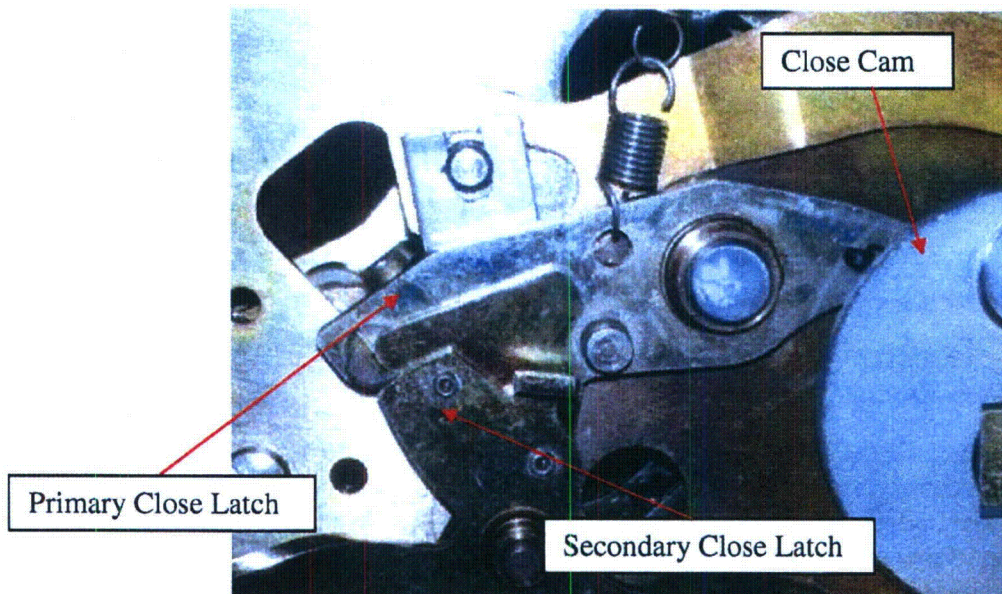

Figure 2 – Interlocking Primary and Secondary Close Latches in operating mechanism
1. This letter provides notification of a failure to comply with specifications associated with a primary close latch, part number 716611K02, used in K-Line 225 to 2000 amp continuous current low voltage electrically operated Model 7 circuit breakers. It does not affect previous models of these same breakers that have not been upgraded to include the interlocking primary and secondary close latches (see Figure 2). It also does not affect manually operated K-Line breakers or K3000/4000 circuit breakers. Information is provided as specified in 10CFR21 paragraph 21.21(d) (4).